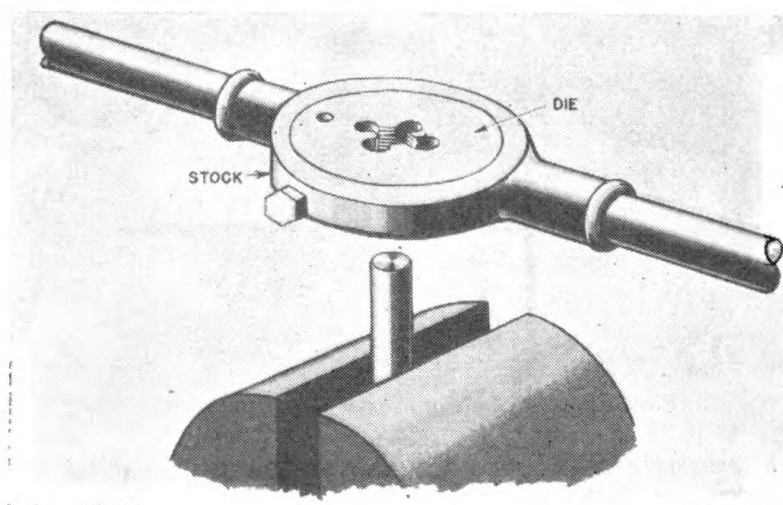

FIGURE 63.—Stock and die ready for use.
19. Use of dies.—Dies are used for cutting outside or male threads, as on a rod, pipe, or bolt. They are held for turning leverage in a stock. Figure 63 shows the complete assembly ready